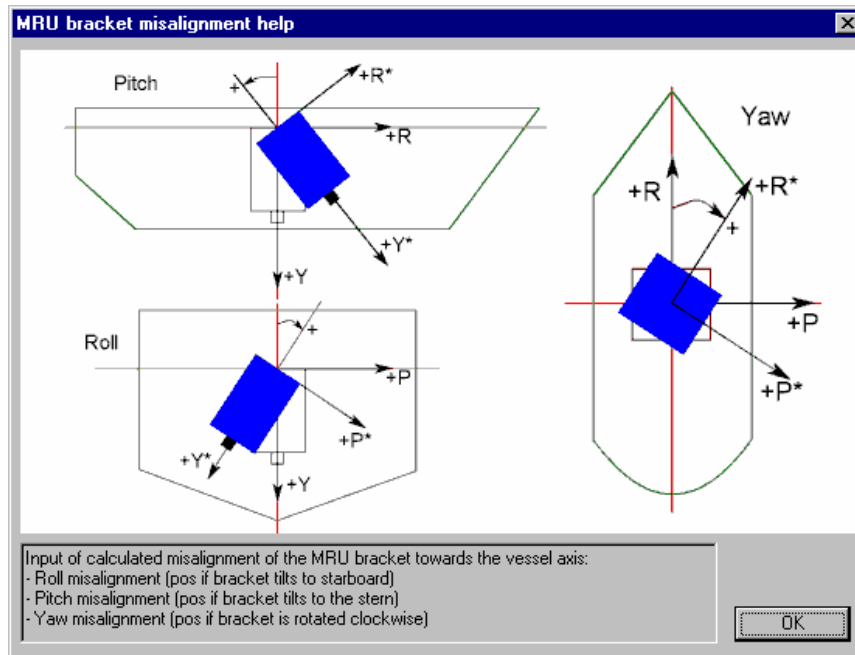

Figure 50 Positive offset angles rotations
- To get more help on the sign of the offset angles, press the **Show MRU bracket misalignment help** button and the window in Figure 50 will appear.